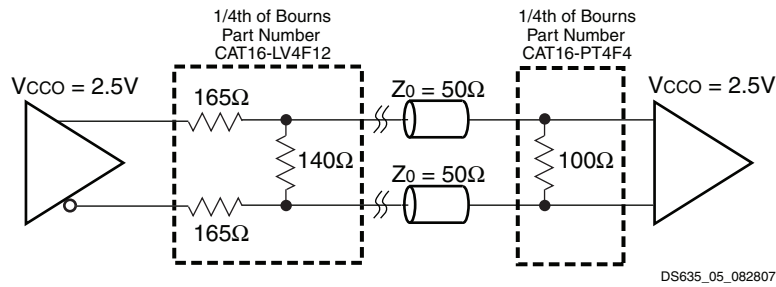

Figure 5: External Termination Resistors for BLVDS Transmitter and BLVDS Receiver
2. Output voltage measurements for all differential standards are made with a termination resistor (RT) of 100 $\Omega$  across the N and P pins of the differential signal pair. The exception is for BLVDS, shown in Figure 5 below.